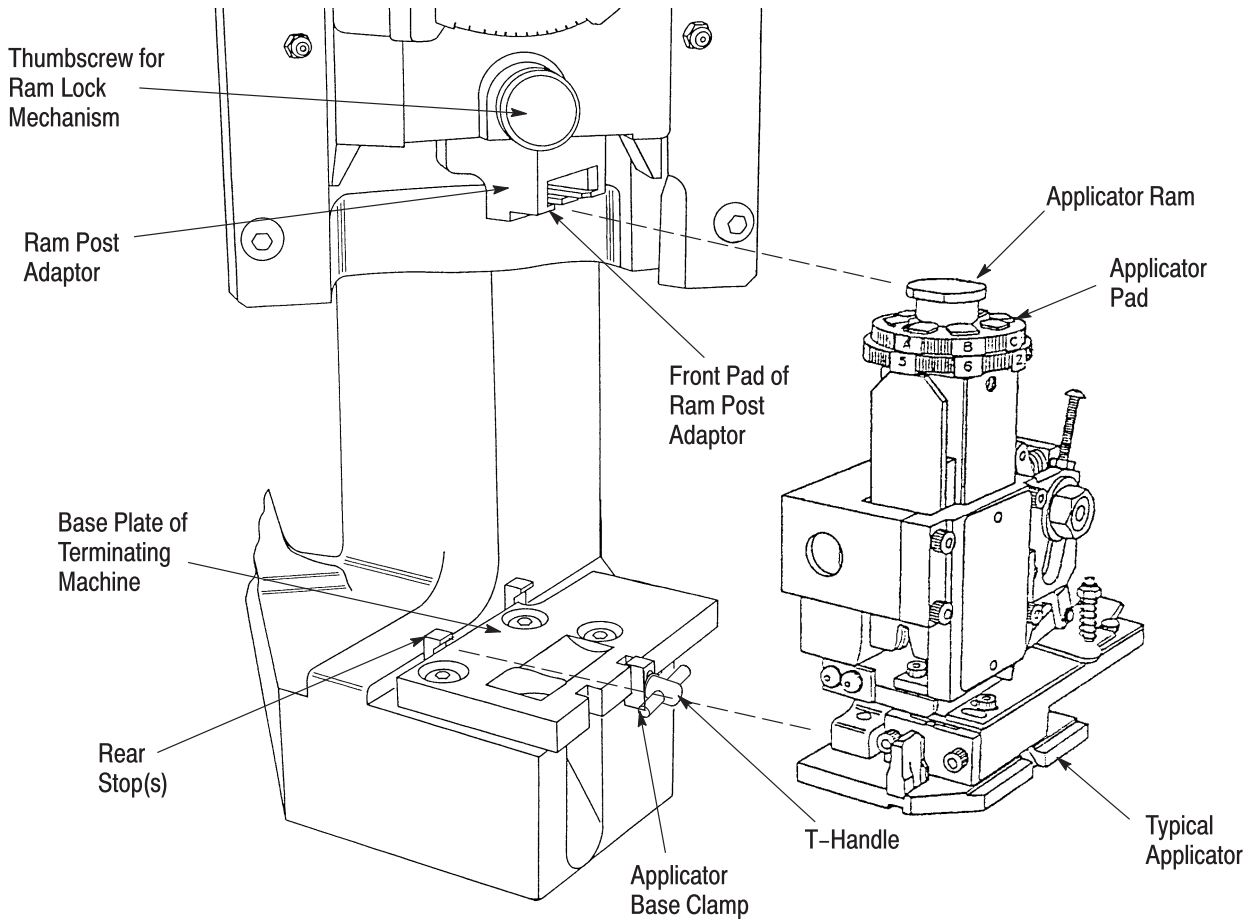

Figure 11
6. Secure the applicator ram post to the ram post adapter by turning the thumbscrew located at the front of the ram assembly clockwise until tight. See Figure 11.